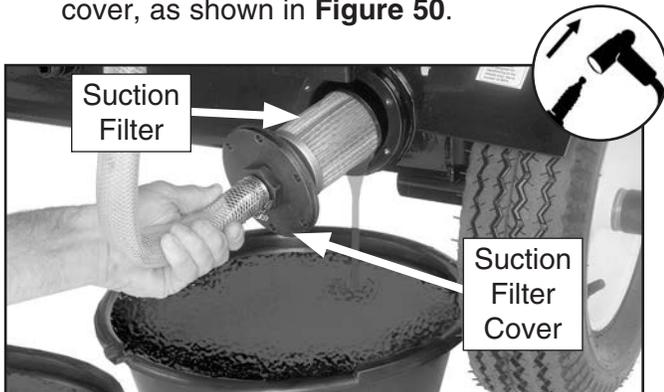

Figure 50. Example photo of draining hydraulic fluid.
3. Place a 5-gallon drain pan under suction filter cover, as shown in **Figure 50**.
4. Loosen filter cover hex bolts and carefully dislodge cover slightly so hydraulic fluid spills into drain pan (see **Figure 50**). Be careful to avoid dropping rubber gasket into drain pan.